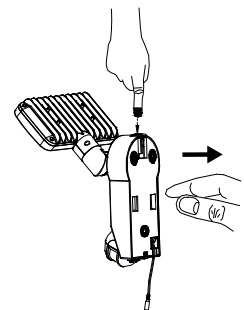

Fig. 2
- Press the release button on the top side (Fig. 2) and open the cover by pulling the wall bracket